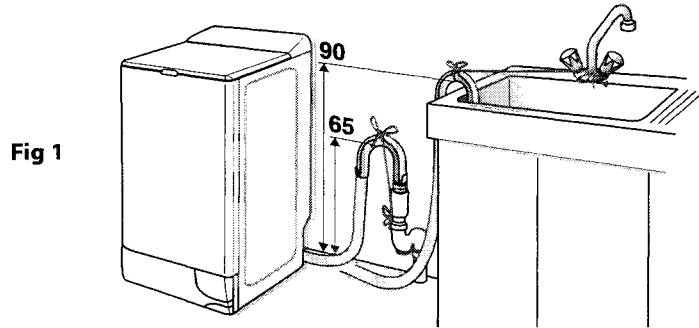

Fig 1
- For drainage into a standard worktop sink ensure the outlet pipe has a minimum bore of 32mm. To avoid syphoning ensure the end of the drainage hose is above the water level in the sink. If your sink is inset, the front edge of the basin must be less than 75mm from the front edge of your worktop (Fig 1).